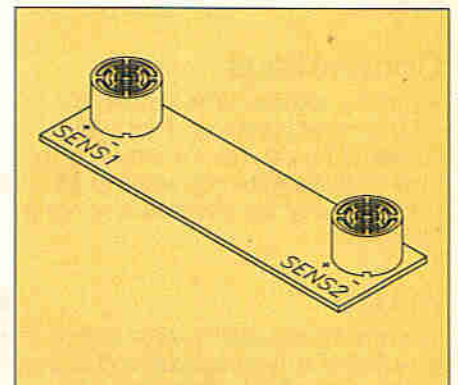

Figure 3. Vertical method of mounting the sensors.
2) With the sensors in the vertical position (Figure 3): In this case the sensors are simply mounted on the PCB. Now drill the holes in the box as shown on the drawing. Install the PCB behind the holes using plastic pillars, so that the sensors are facing the holes without touching the box.
To help keep water out of the unit, cover the holes on the inside of the box with a piece of very fine wire gauze (see Figure 3). If the meshes of the wire gauze are too wide to prevent water penetration, the gauze should be doubled up two, or four times before fixing it to the holes.